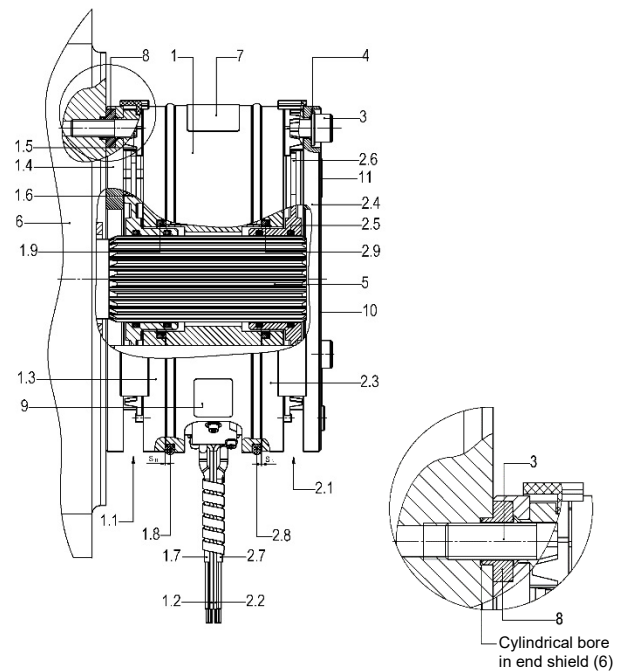
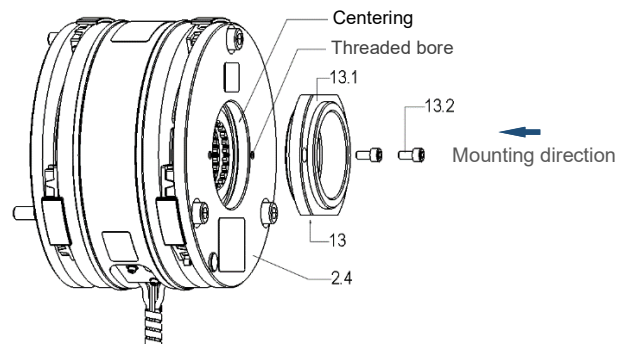

Fig. 2/1: Design of spring applied double circuit brake
Fig. 5/2: Mounting Add-on kit for encoder (representation for encoder type Sendix 8.5873.HK. Comp. Kübler)
Table 2/1: Key to Fig. 2/1, Fig. 3/1, Fig. 3/2, Fig. 5/1 and Fig. 5/2
- No impact marks or other damage to the external teeth of the machine shaft (5) and the centering bores (cylindrical bores) (Fig. 2/1, Fig. 3/1) in the bearing shield (6).
Fig. 5/1: Feeler gauge insertion points for determining respectively checking the rated air gap s_N (Representation types 78 11019A00, 7811029A00 and 78 11033A00)
The radial feeler gauge insertion points for determining respectively checking the two rated air gaps s_N are shown in Fig. 5/1 respectively information label (13) (the figure applies to size 19, 29 and 33 brakes, size 40 brakes have 4 mounting screws (3)). The feeler gauge insertion points are located to the right and left of the mounting screws (3). The rated air gap s_N of the two brake circuits (MGB1 and MGB) is measured between the armature (1.3 and 2.3) and the solenoid housing (1). The average value from the six respectively eight ¹⁾ measurement respectively check values per brake circuit (MGB1, MGB) gives the rated air gap s_N .
The installation of the encoder (not included in the delivery of add-on kit (13)), takes place on the rear of the brake with mounting flange (13.1) directly at the flange (MGB) (2.4) of brake circuit MGB (see Abb. 5/2).
After removing the packaging, the mounting flange (13.1) has to be positioned at the inner diameter of the flange (MGB) (2.4) of the brake circuit MGB and so to adjust, that the mounting bores of the mounting flange (13.1) are arranged concentrically with the threaded bores in the flange (2.4) (see Abb. 5/2). With the fixing screws (13.2) the mounting flange (13.1) has to be fixed with the flange (MGB) (2.4) of the brake circuit MGB (see Abb. 5/2). The tightening torque M_A of the fixing screws (13.2) can be taken from Table 5/3.